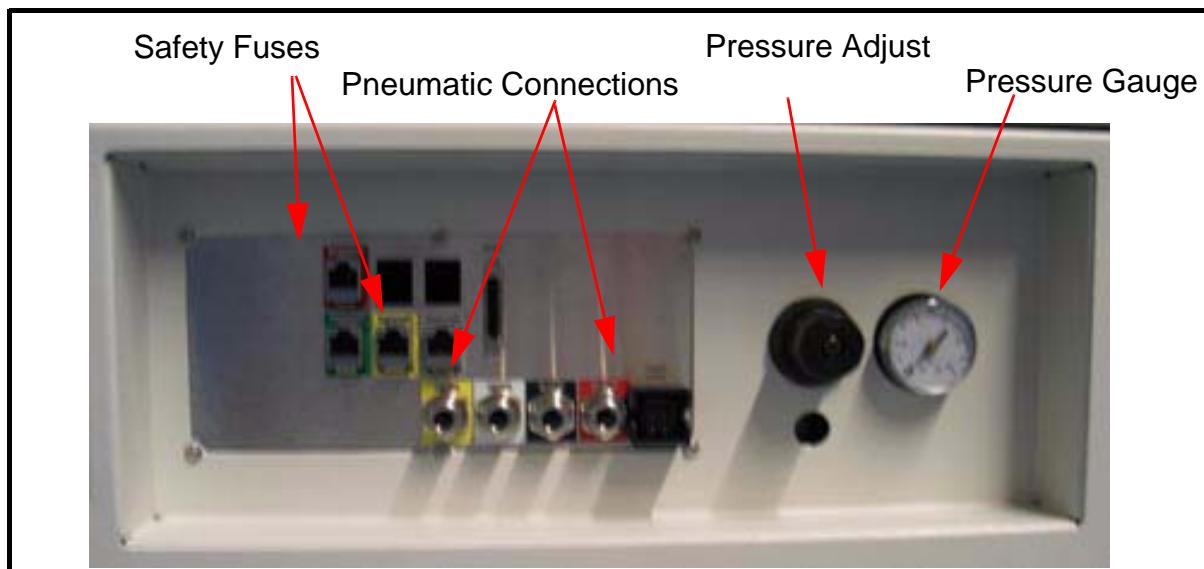

Figure 2.1. Rear View of Base of Cabinet.
Shielding of sensitive components such as the receiver from interference arising from electromagnetic radiation from external sources is maximized when all the units are housed within a metal cabinet. The reader should note that they are advised to keep the cabinet doors shut to maximize this shielding. Ventilation fans mounted at the rear of the cabinet cool the various units. As well as providing important electrical internal wiring (via an internal wiring harness) the cabinet is designed to provide the spectrometer pneumatic and mains electrical power connections. With a cabinet arrangement it is easier to provide facilities such as electrical power and compressed air from a single supply. These connections can be seen in Figure 2.1.
- If a problem is encountered with the pneumatic driven functions such as lift and spin you should check that adequate pressure (see site planning guides for specific requirements) is available at the rear of the cabinet. The pressure gauge and adjustment knob are clearly visible in Figure 2.1.